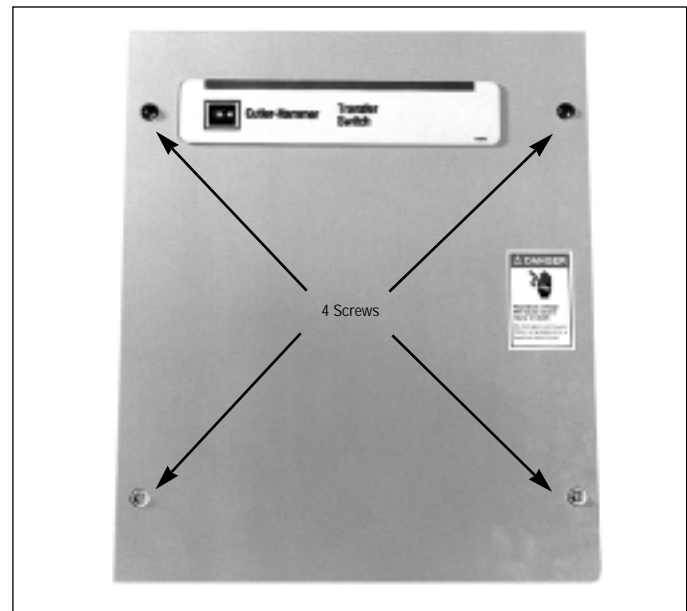

Figure 4-3 Cover Removal
- Step 1:** Remove the 4 cover screws and place the cover in a safe place (Figure 4-3).